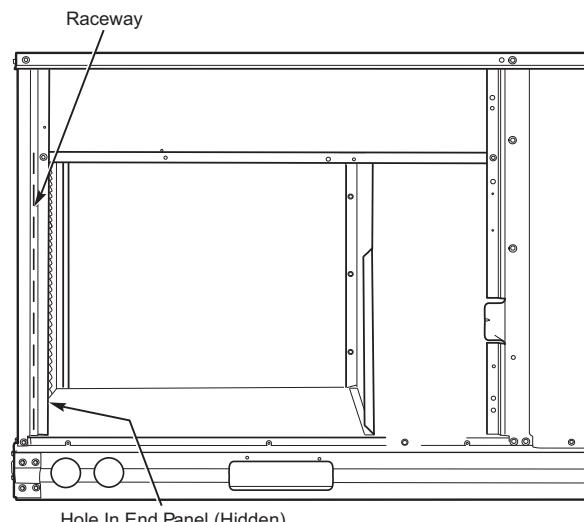

Fig. 31 — Field Control Wiring Raceway
The 50GC unit requires an external temperature control device. This device can be a thermostat (field-supplied) or a SystemVu™ controller (available as factory-installed option, for use on a Carrier Comfort Network® or as a stand-alone control). All field added wire must comply with UL and local NEC standards. Use raceway shown in Fig. 31 to help with compliance as needed.
Pass the thermostat control wires through the hole provided in the corner post; then feed the wires through the raceway built into the corner post to the control box. Pull the wires over to the terminal strip on the upper-left corner of the Controls Connection Board. See Fig. 31.
2. Feed wires through the raceway built into the corner post (see Fig. 31) to the 24v barrier located on the left side of the control box. The raceway provides the UL-required clearance between high-voltage and low-voltage wiring.